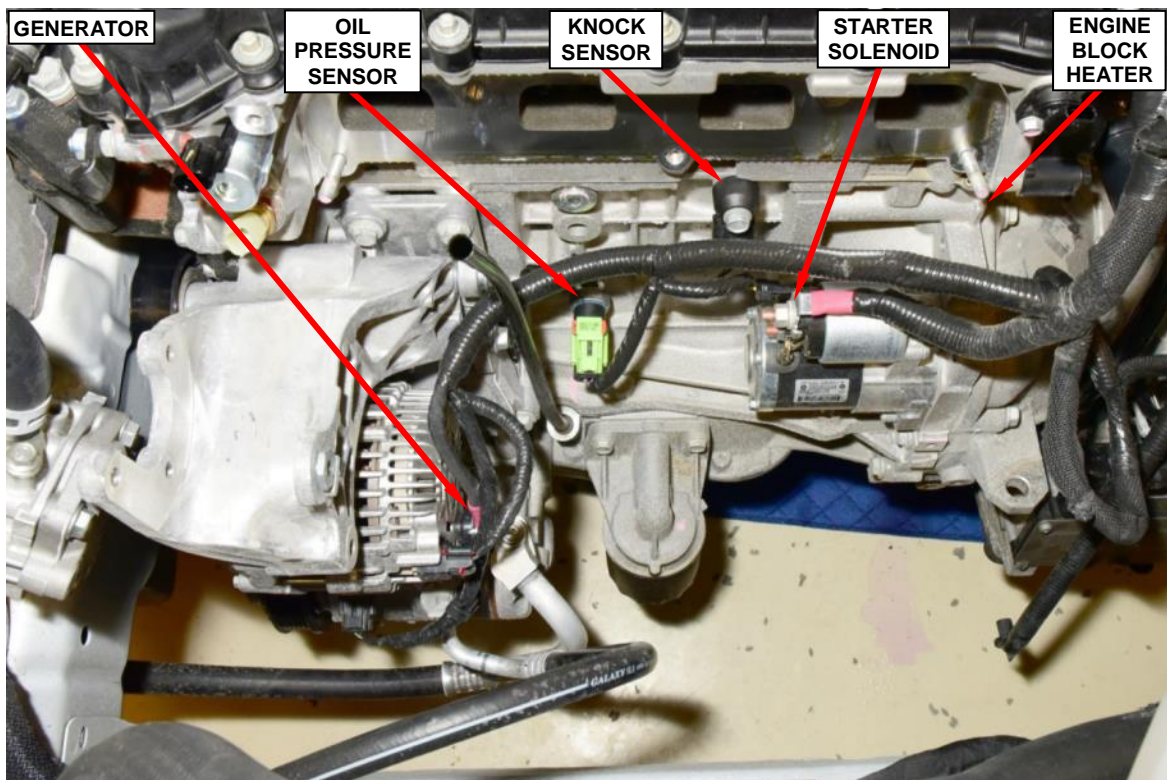

Figure 84 – Engine Wire Harness
57. Disconnect the engine wire harness from the oil pressure sensor and the knock sensor (Figure 84).
58. Disconnect the engine wire harness from the generator (Figure 84).
59. Remove and save the battery positive terminal nut and remove the battery positive wire from the generator (Figure 84).
60. Disconnect the engine wire harness from the A/C compressor (Figure 84).
61. Disconnect the engine wire harness from the starter solenoid (Figure 84).
62. Remove and save the battery positive terminal nut and remove the wires from the starter solenoid (Figure 84).
63. **For vehicles equipped with an engine block heater**, disconnect the engine wire harness from the heater element (Figure 84).